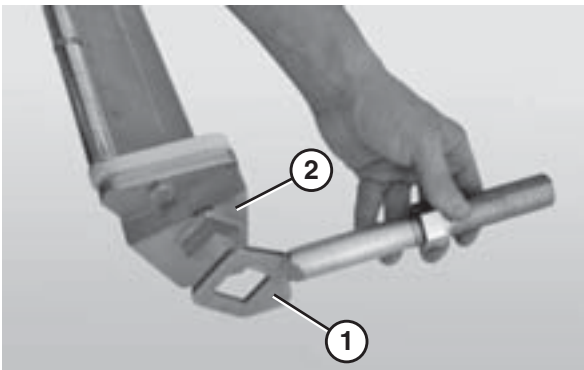

Figure 81
3. Slide the nose bar shafts (Figure 81, item 1) off of the nose bar weldment (Figure 81, item 2).